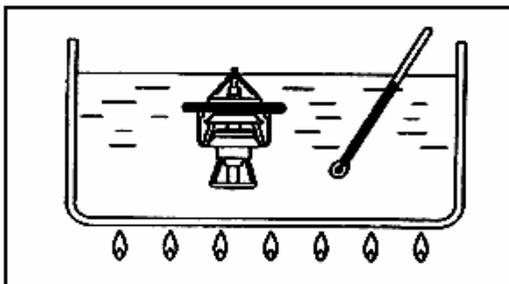

Fig 7-5
- (1) Immerse the thermostat in water, and heat the water while stirring. Check the thermostat valve opening temperature. (See Fig 7-5).